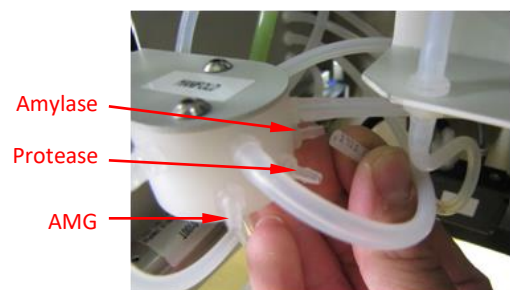
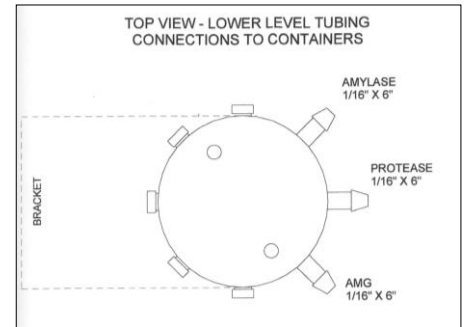

Figure 15
Figure 16
- 14. Install the 6" silicone tubes from the barb at the bottom of the Enzyme Pinch Valve bracket to the correct location on the Manifold. Refer to Figure 15 and drawing Figure 16.**
15. Drawing Figure 16 shows the correct location on the lower level of the Manifold for each of the three 6" silicone tubes coming from the Enzyme Pinch Valve.